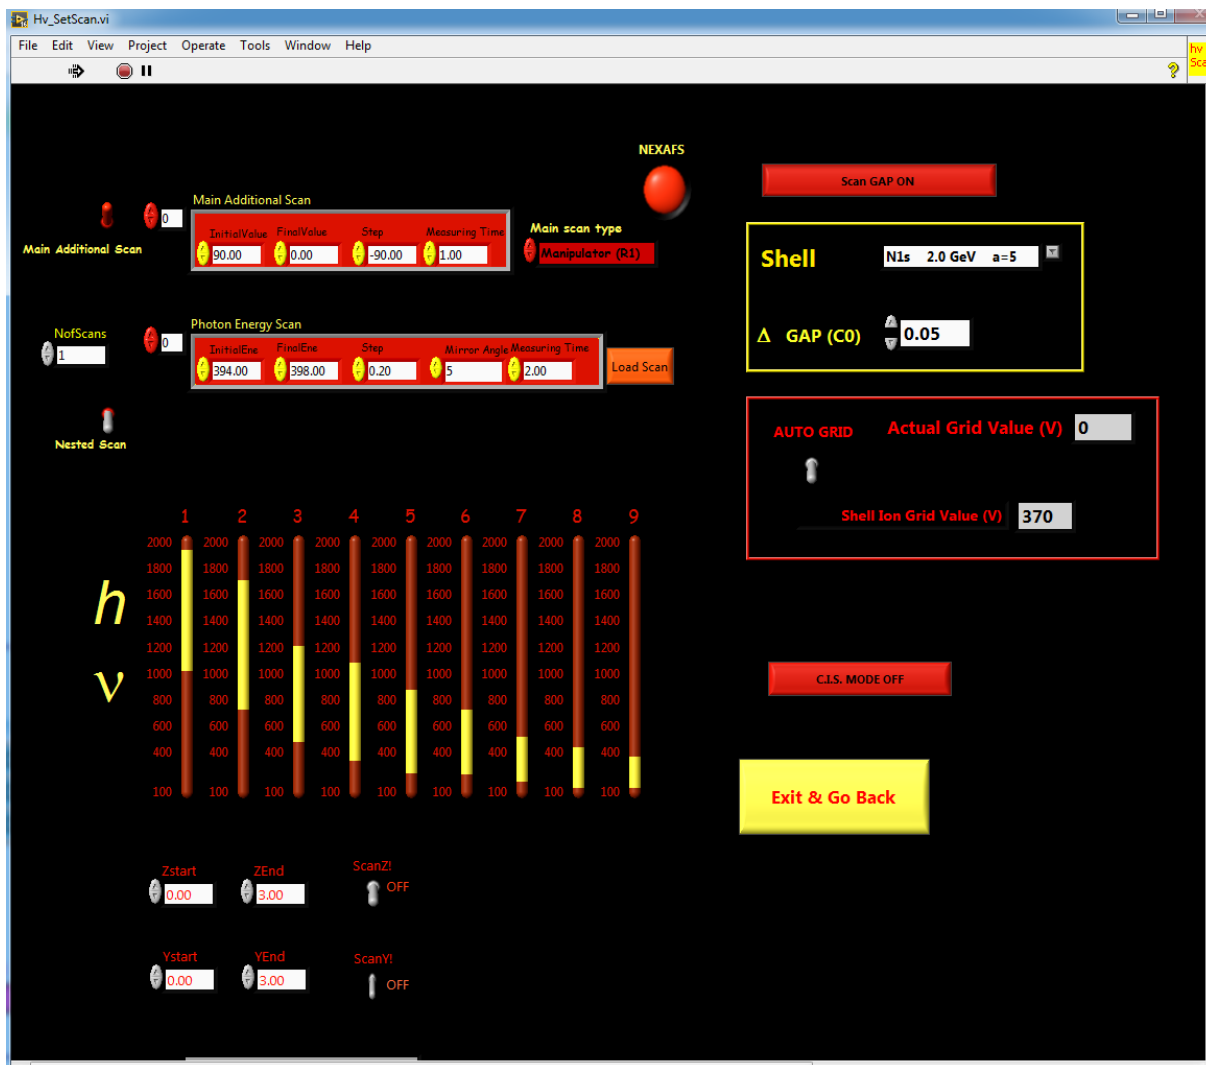

Figure 26: The XANES "Set Scan" Panel of the ALOISA Acquisition Software.
In the "Set Scan" Panel, shown in fig.26 it is possible to set the parameters for the NEXAFS measurements. Follow this procedure:
2. Open the "Set Scan" Panel, shown in fig.26.